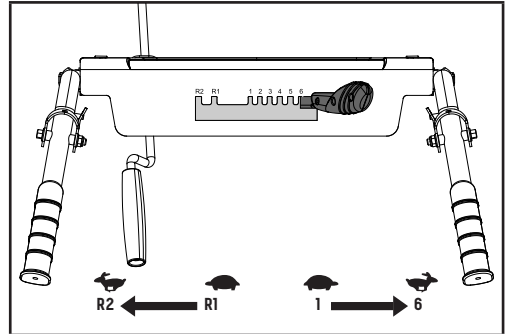

Figure 13
Your snowblower has 6 forward speeds and 2 reverse to regulate forward and backward motion (Fig. 13).
2. Move the speed-control lever to the gear (either forward or reverse) that you require (Fig. 13).